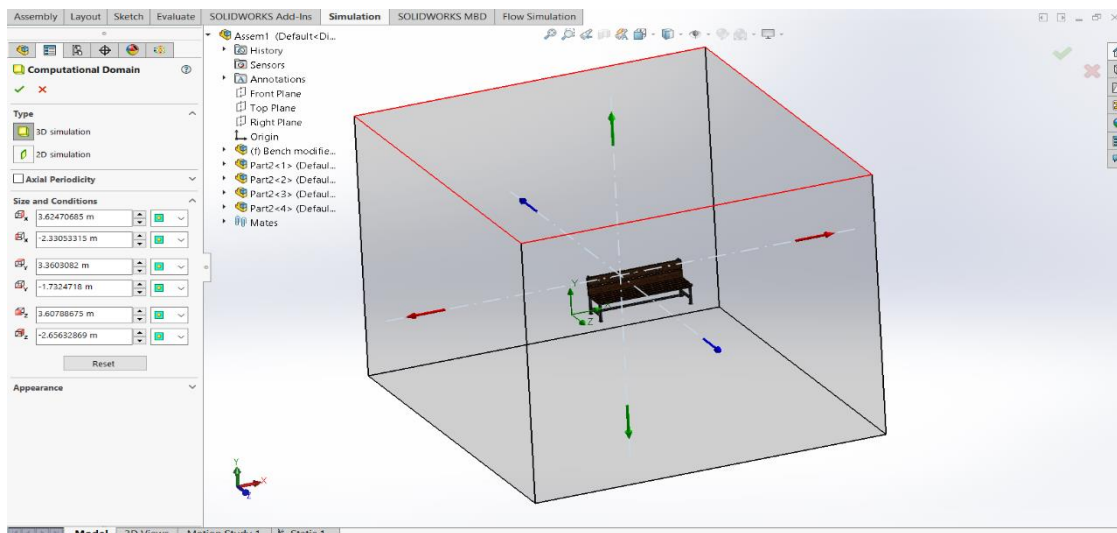

Figure 7: Computational domain
9. After completion of the wizard dialog box, a computational domain box will appear which is shown in the figure 7. If the domain is overlapping, then right click on the computational domain-> click edit definition. Then adjust the domain by using the arrows, which is shown in the figure 7